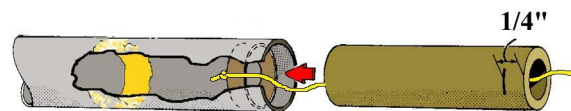

Fig. 8
about 2" from the base of the tube. Now, insert the modified TB-7 ring, with the Kevlar thread running down through the casing, as shown in Fig. 8 and push until you reach the depth mark. Do not stop pushing until the depth mark has been reached, or the glue will "freeze" with the ring in the wrong place. Remove the casing immediately and set this tube aside to dry.
- **Step 8D** Using the same method as Step 8C, apply a bead of glue up inside the ST-73 body tube about 2" from the base of the tube. Insert the second (unmodified) TB-7 ring as shown in Fig. 8 and push with the marked casing until you reach the depth mark. Set this tube aside to dry.